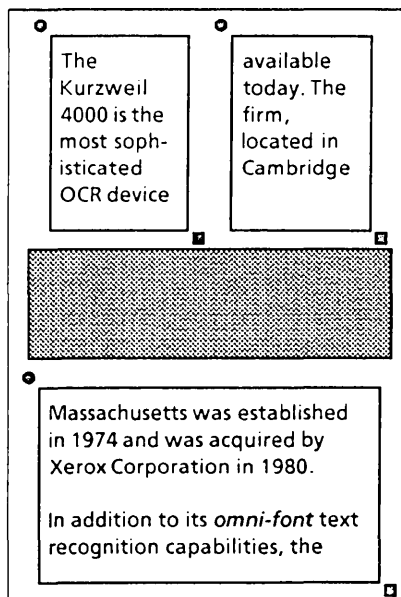

Figure 1.4 - Page Markup
1. Press **ACCEPT** to install the Format File Creation menu information. A prompt line at the top of the screen will display: **TP - 1** (Tablet page number). The document may now be marked up. Refer to Figure 1.4 for an example of typical tablet "hit" points.
5. Move the stylus to the lower right corner of the text area (indicated by a square marker in Figure 1.4) and press the stylus down again. Be certain that this second point is to the right of and below all text in the block. This is especially important for non-justified (i.e, ragged) text. A second, longer beep will indicate that the area has been successfully marked.